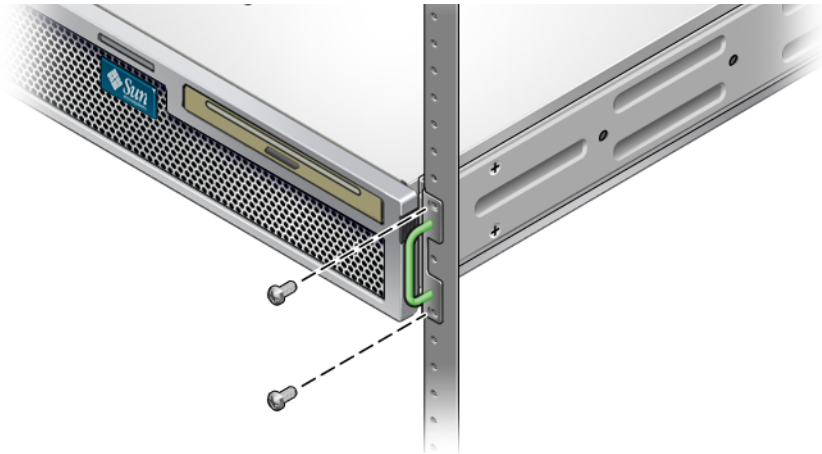

FIGURE 3-4 Securing the Front of the Server to the Rack
7. Using two screws per side, secure the front of the hardmount brackets attached to the sides of the server to the front of the rack (FIGURE 3-4).